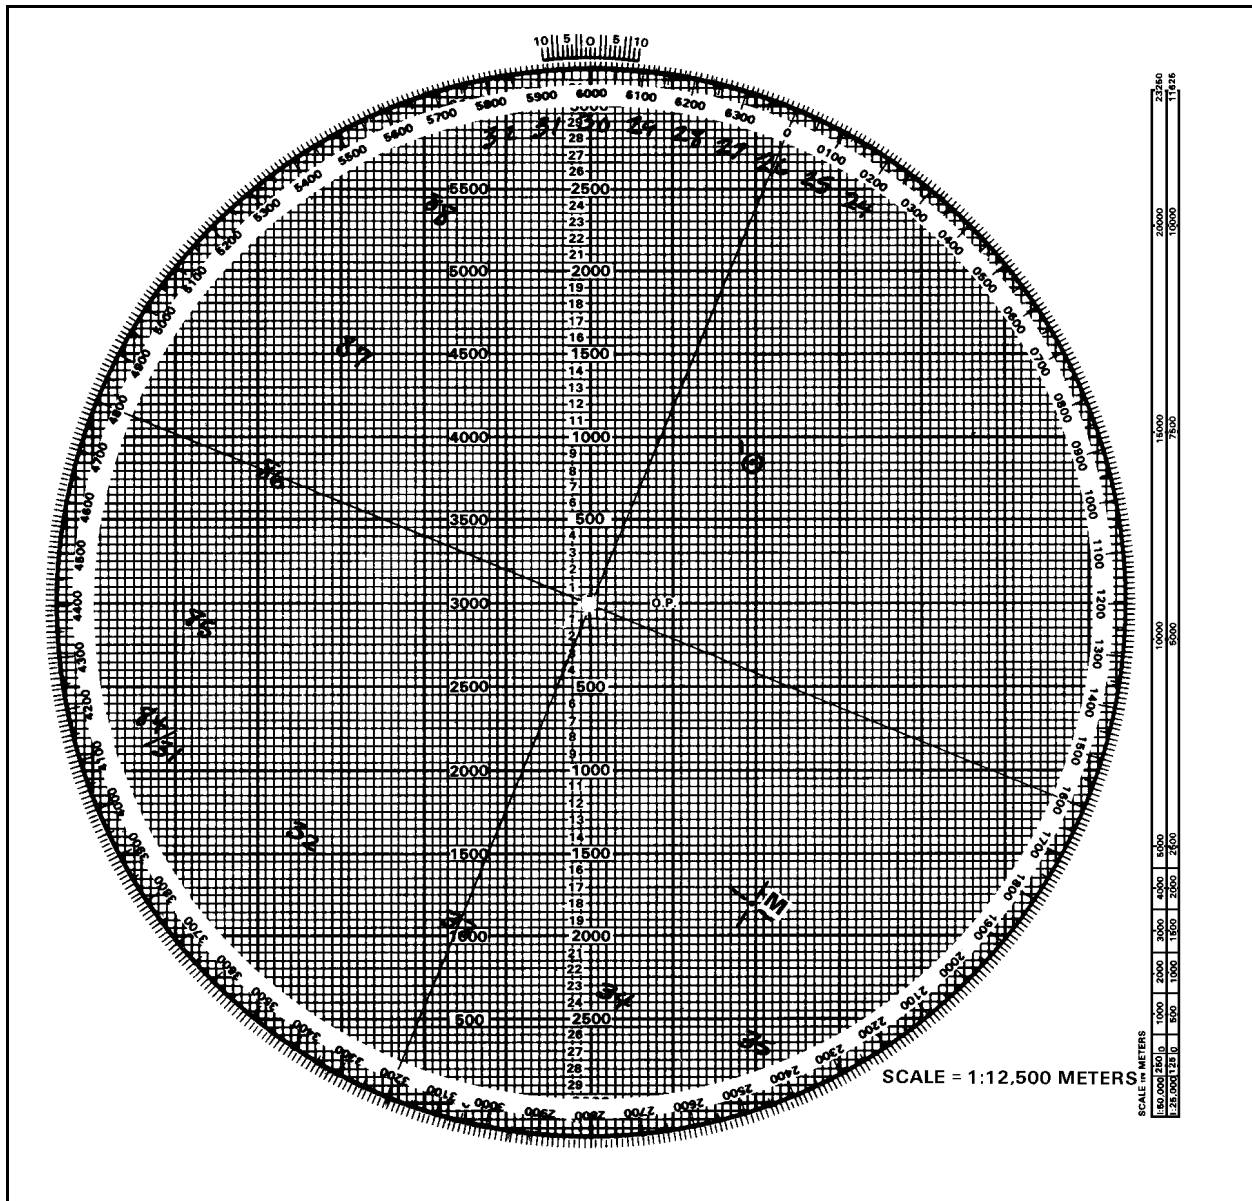

Figure 12-13. Parallel-line plotting.
(3) To determine the firing data to send to the mortar, align the mortar position below the target being engaged using the parallel-line method of plotting. Then read the deflection using the azimuth disk and vernier scale and measure the range between the mortars and target. To align the mortar position and target, since the mortar position is being plotted away from the pivot point, use the parallel-line method of plotting. With the mortar position and target plotted, rotate the disk until the mortar position and the target are an equal distance from, or on, the same vertical line (Figure 12-13).